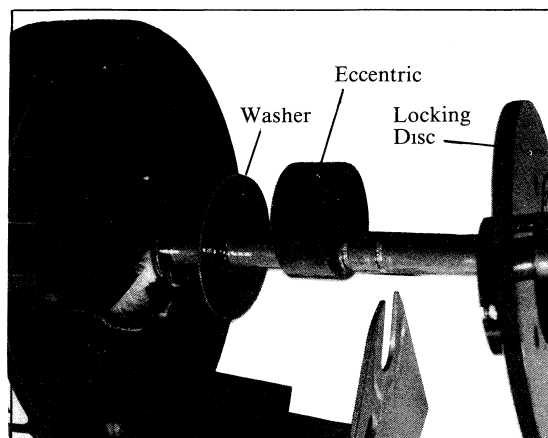
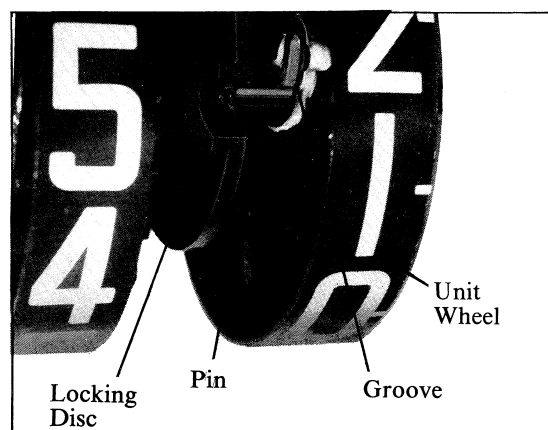
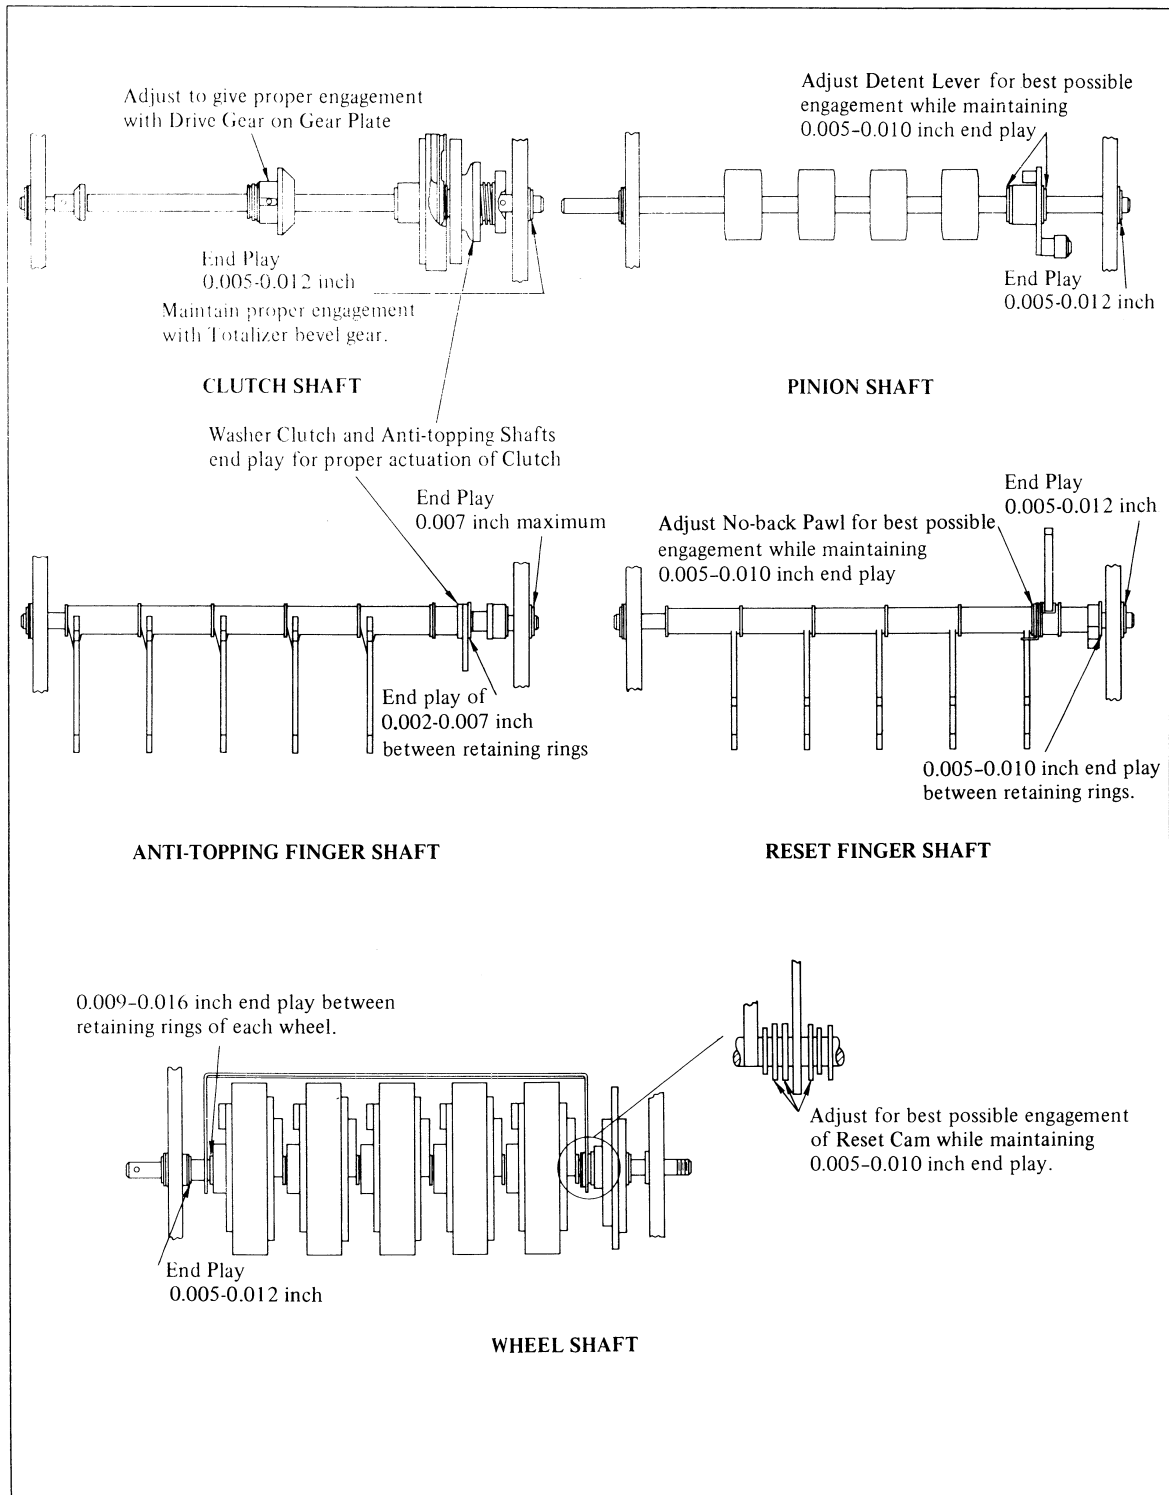

Figure 17. Locking Disc, Eccentric and Washer Removal and Installation.
Figure 18. Unit Wheel Installation.
Figure 28. End Play Limits.
- Install parts, retaining rings, washers and key in the sequence shown in Figure 17. When installing wheels, be sure the pin on the locking disc engages the groove in the wheel as shown in Figure 18. Check end play per Figure 28.
- b. Remove the retaining ring behind the bevel gear and add or subtract washers as required for proper mesh between the bevel gear on the gear plate and the drive bevel gear on the clutch shaft. The shaft end play must be maintained as specified in Figure 28.